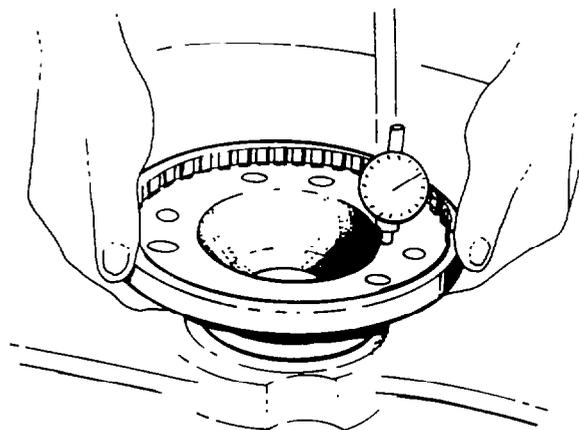

Fig. 244 — Measuring End Play — Drive Shaft
- f. Position the transfer case vertically (rear of case facing up), then using a dial indicator, check that the drive shaft end play is between 0.178 – 0.254 mm (0.007 – 0.010 in.) (see fig. 244). If the end-play is not within these limits, use a thinner selective bearing spacer to decrease or a thicker selective bearing spacer to increase the end play.